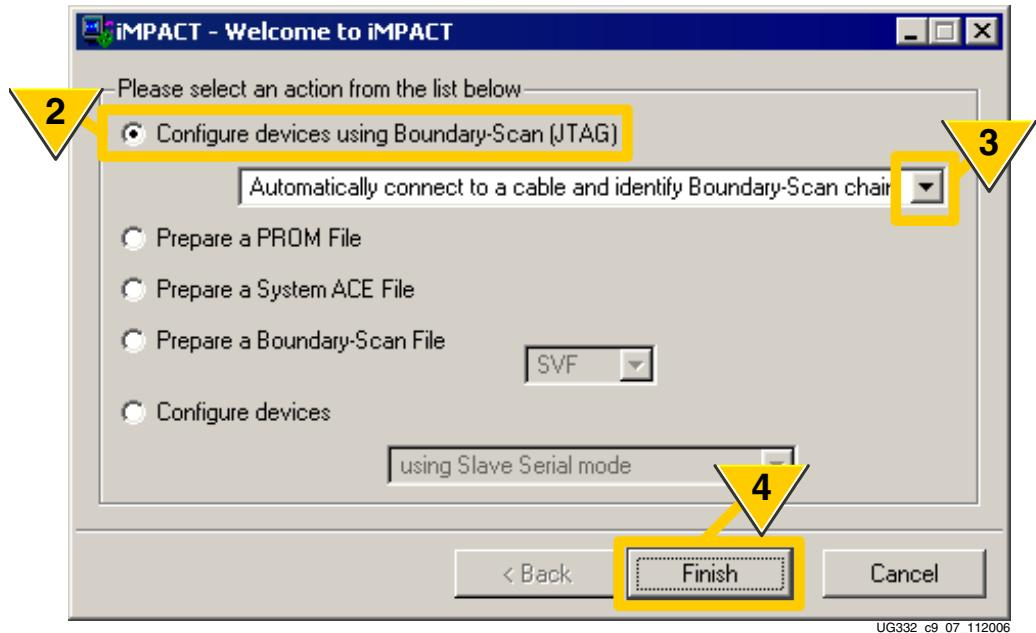

Figure 9-8: Configure Devices Using JTAG
2. As shown in Figure 9-8, select **Configure devices using Boundary-Scan (JTAG)**.